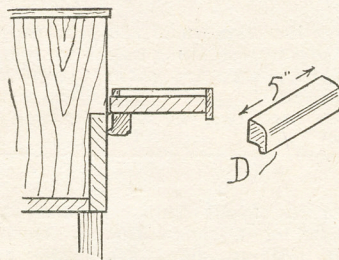

Fig. 2—Section showing drop front and handle
The fall-front is now provided with side and back strips of wood, $\frac{1}{4}$ in. square section, to join up with the edge fillet already there, and make a shallow tray, as in Fig. 2. A pair of handles, as at (D) are shaped up from a strip of wood $\frac{3}{4}$ in. wide and 1 in. deep. These are rebated underneath $\frac{1}{4}$ in. deep, as shown, and one is to be fixed to the flap to act as a support when the flap is open, as in the diagram.